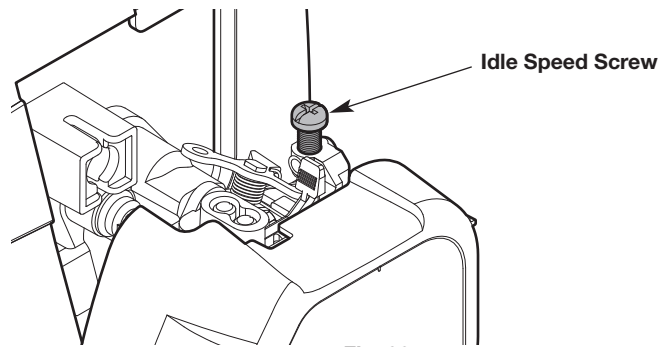

Fig. 26
- If the engine stops, increase the idle speed. Use a small Phillips screwdriver to turn the idle speed screw clockwise, 1/8 of a turn at a time, until the engine idles smoothly (Fig. 26).